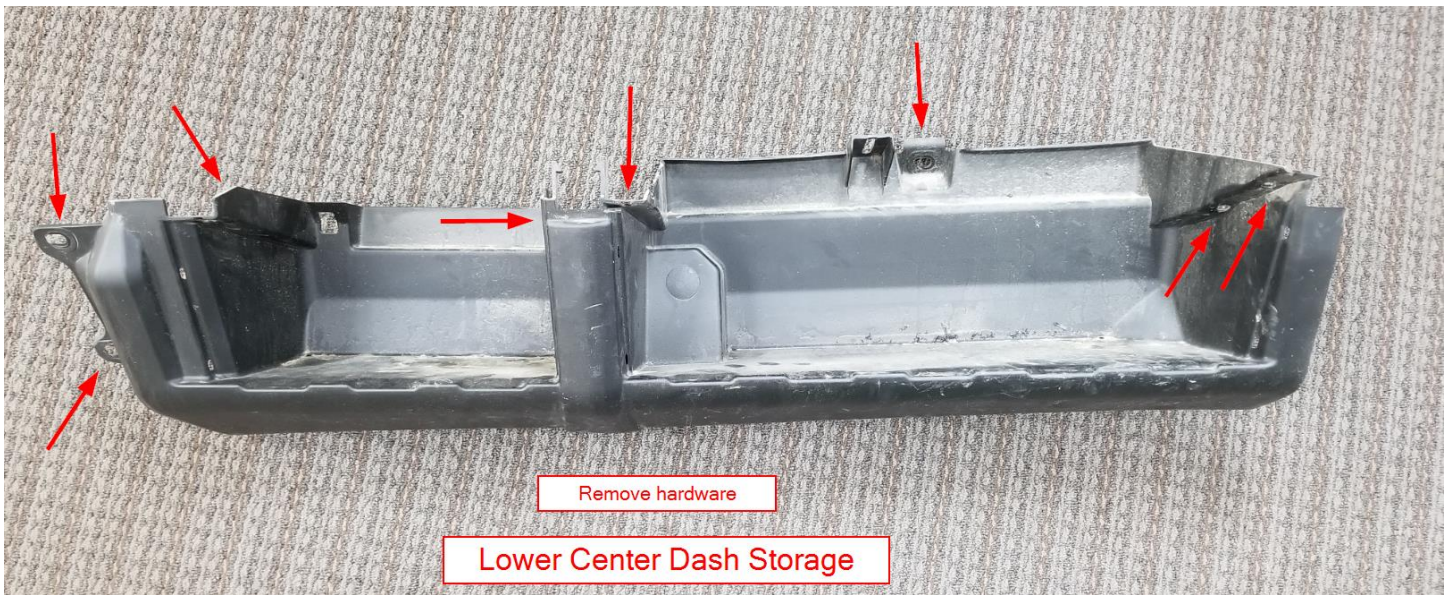

Figure 3
- e. Remove the lower center dash storage compartment molding and set aside as shown in Figure 3.